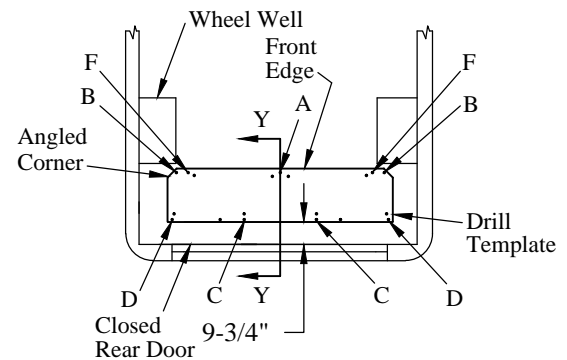

Figure 4: Drill template location (top view).
- 9-3/4" from the metal part of the closed rear doors at the center (Figure 4).